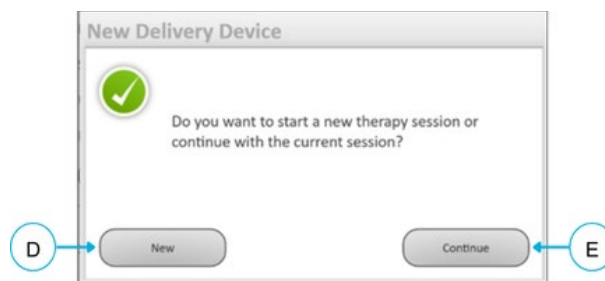

Figure 14-3: New Delivery Device window
8. The New Delivery Device Window is displayed (**Figure 14-3**).
- Select **[New]** (D) to start a new procedure with a new Delivery Device
- Select **[Continue]** (E) to continue the current procedure with a new Delivery Device